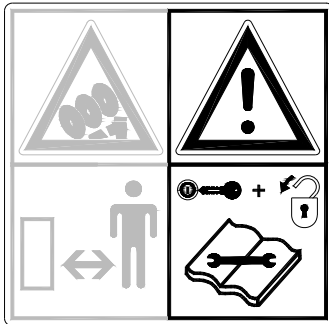

Fig. 2
**Always switch off the tractor engine, remove the tractor ignition key and disconnect PTO** when performing maintenance, adjustment and repair activities (Fig. 2).